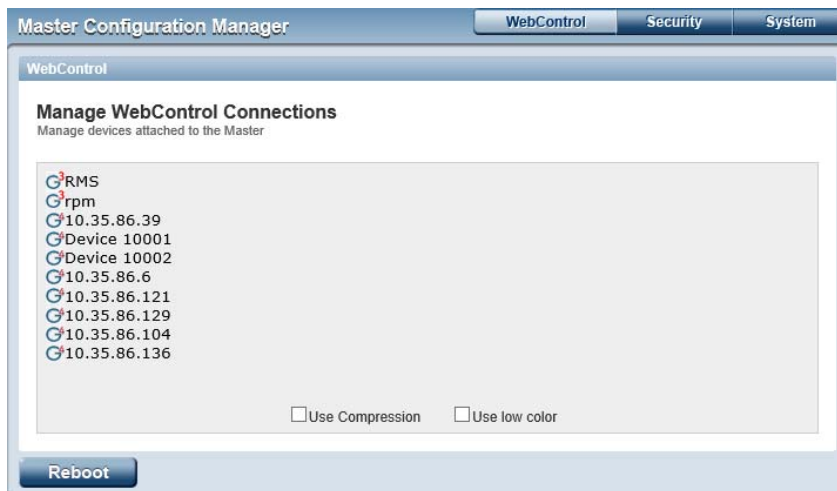

FIG. 101 NI Controller WebConsole - WebControl page (initial view)
3. The default browser opens NI Controller's WebConsole, to the *WebControl* page (FIG. 101):